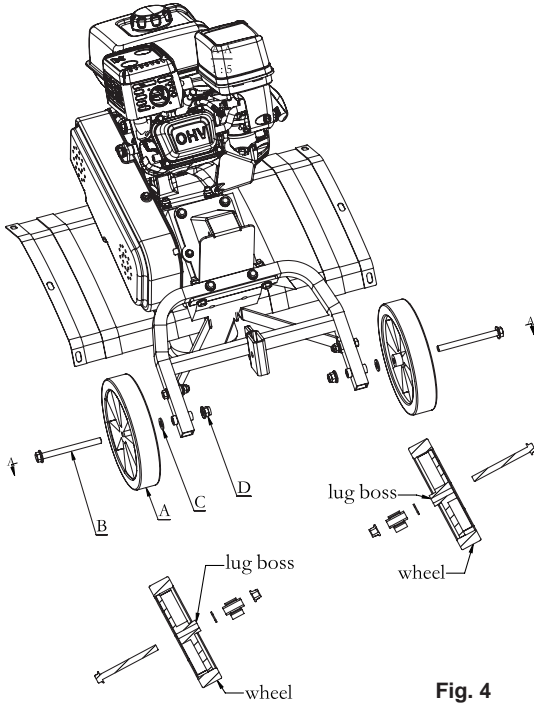

Fig. 4
Step 4 Assembly of the wheel (See Figure 4)